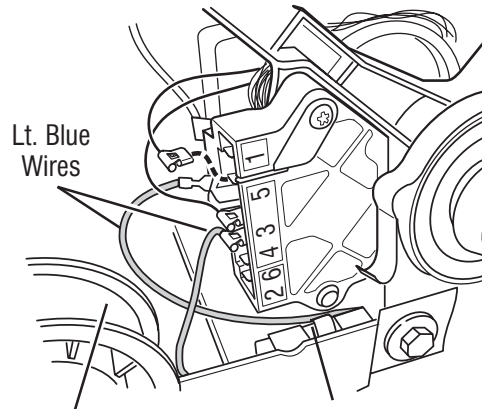

Figure 19 - Checking the belt switch.
11. Check the belt switch by measuring resistance between the two light blue wires, as shown in figure 19, while pushing up the belt switch pulley.